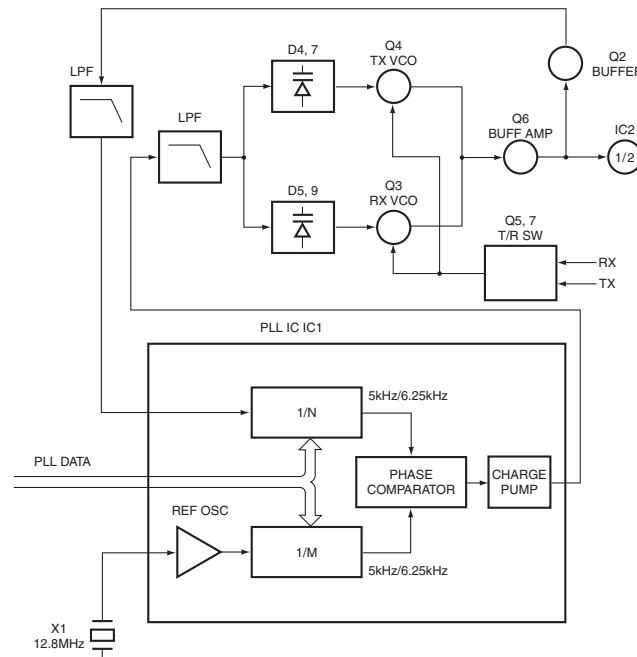

Fig. 5 PLL circuit / 图5 PLL电路
A 12.8MHz reference oscillator signal is divided at IC1 by a fixed counter to produce an oscillator (VCO) output signal which is buffer amplified by Q2 then divided in IC1 by a programmable counter. The divided signal is compared in phase with the 5 or 6.25kHz reference signal from the phase comparator in IC1. The output signal from the phase comparator is filtered through a low-pass filter and passed to the VCO to control the oscillator frequency. (See Fig. 5)
12.8MHz 的参考振荡信号在 IC1 中被一个固定计数器分频。振荡器 (VCO) 的输出信号由 Q2 缓冲放大，然后在 IC1 中被一个可编程双模块计数器分频。分频的信号在 IC1 的相位比较器中进行比较。生成的信号通过一个低通滤波器滤波后传送到 VCO 控制振荡器频率。(见图 5)